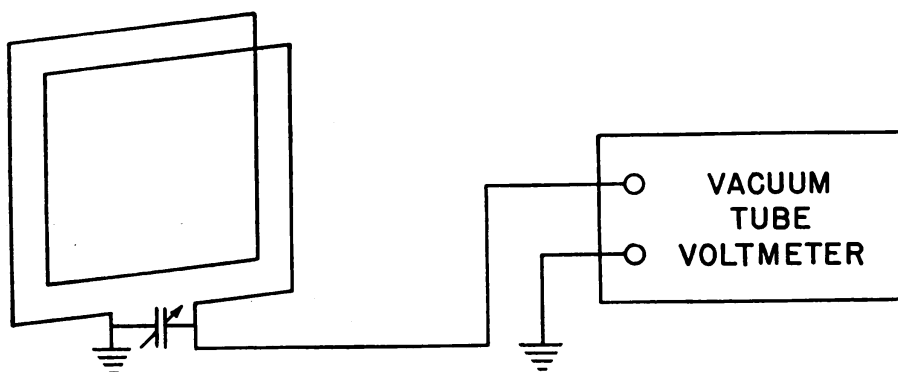

FIGURE 15. Single loop circuit.
a. **Single loop.** To simplify the explanation of this theory, first consider the operation of a single loop feeding into a vacuum tube voltmeter instead of the receiver (fig. 15). When a transmitted sig-